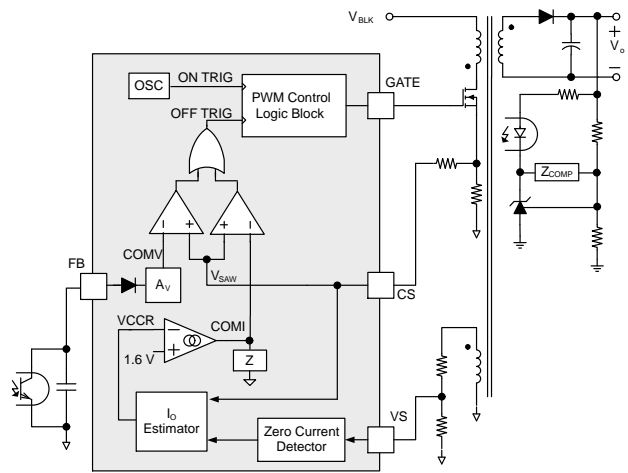

Figure 21. Simplified PWM Control Circuit
Figure 21 shows the simplified CV PWM control circuit of FAN6080HMX. In constant voltage (CV) regulation, the output voltage is sensed via a voltage divider and compared with the internal reference of shunt-regulator to generate a compensation signal. The compensation signal is transferred to the primary side through an opto-coupler and fed to FB pin. The FB signal is level shifted, and scaled down by an internal attenuator AV to generate the COMV signal. The COMV signal is then applied to the PWM comparator to determine the PWM duty cycle, as shown in Figure 21.
In constant current (CC) regulation, the output current estimator calculates the output current using the transformer primary side current and the rectifier diode conduction time which is sensed on the VS pin. By comparing the estimated output current with an internal reference signal, COMI signal is generated, which determines the PWM duty cycle, as shown in Figure 21.
Two internal comparators are used to compare the COMV and COMI signals with sawtooth waveform (VSAW) in order to determine the PWM duty cycle. As shown in Figure 21, the outputs of the two comparators are combined with an OR gate to determine the MOSFET turn-off instant. The lower between the COMV and COMI signals determines the PWM duty cycle. In CV mode, COMV determines the PWM duty cycle while COMI signal is saturated to high level. Whereas, in CC mode, COMI determines the PWM duty cycle while COMV signal is saturated to high level.